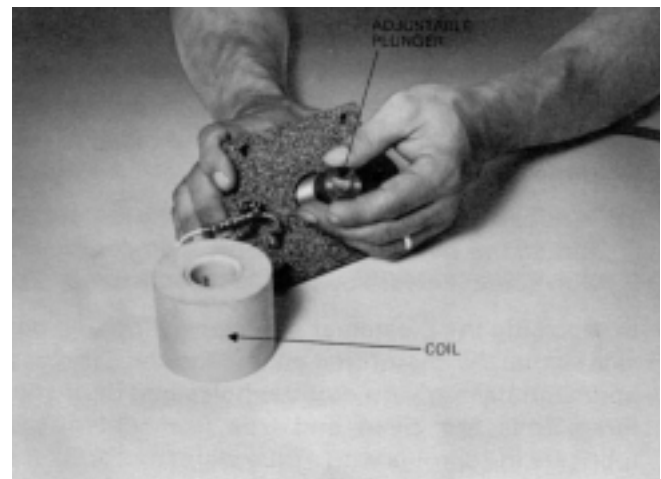

FIGURE 6
3. Lift out the electrical assembly. Unscrew and remove the adjustable plunger (see Figure 6).